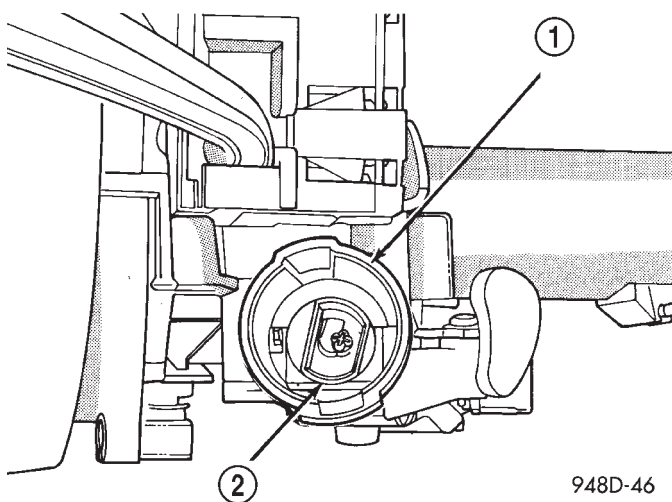

Fig. 23 Socket in Lock Cylinder Housing
- (1) Install key in lock cylinder. Turn key to run position (retaining tab on lock cylinder can be depressed).
- (2) The shaft at the end of the lock cylinder aligns with the socket in the end of the housing. To align the socket with the lock cylinder, ensure the socket is in the Run position (Fig. 23).